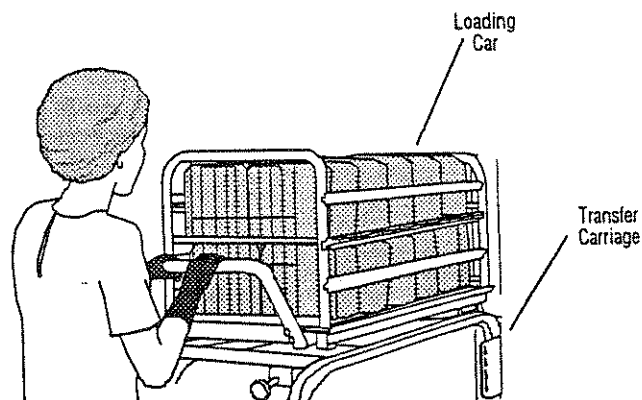

Figure 5-2. Move Loaded Transfer Carriage in Position
3. Move transfer carriage forward until the carriage latches with the chamber end frame (see Figure 5-2).